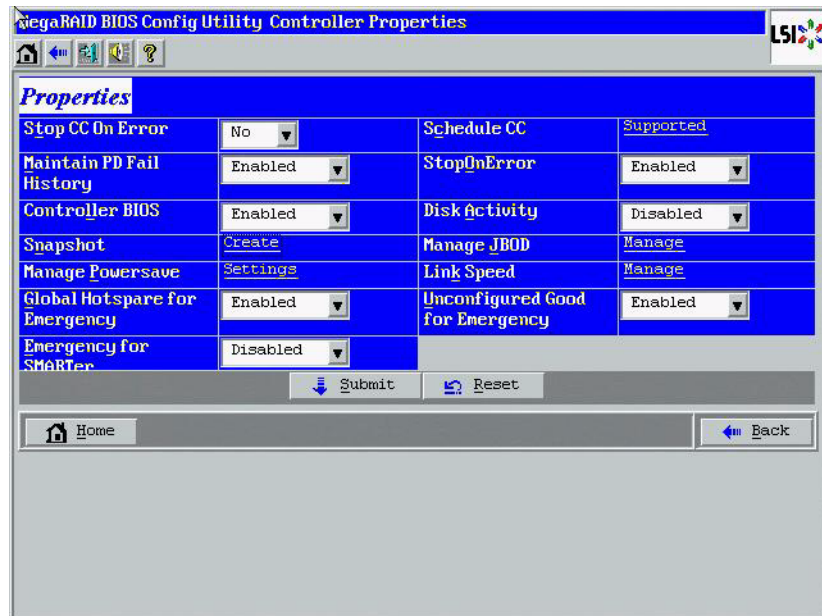

Figure 96: Fourth Controller Properties Dialog
4. Click **Next** to view the fourth Controller Information dialog, as shown in Figure 96.